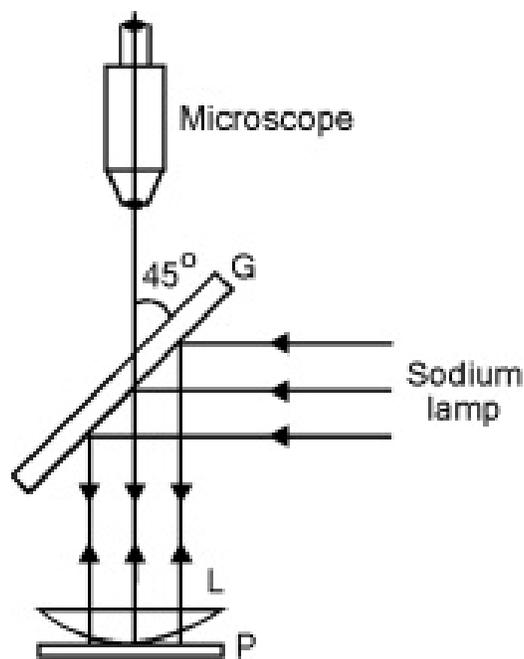

Fig. 2.3.1
- A carefully cleaned convex surface of a plano-convex lens L of large radius of curvature is placed on a plane glass plate P. (Fig. 2.3.1).